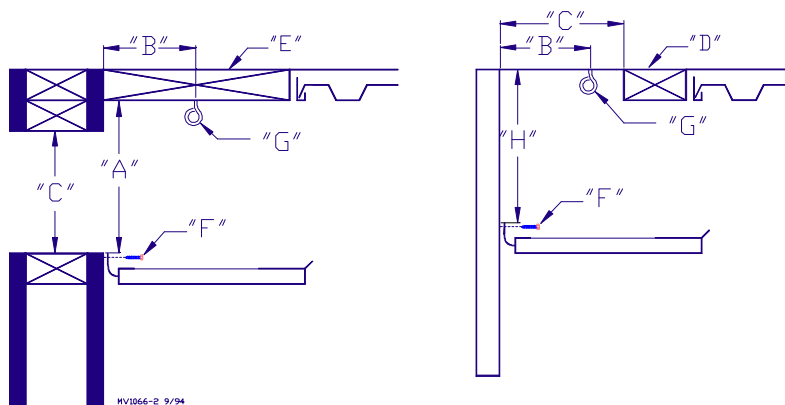

Figure 1.
1. Determine if the inlet slot is to be in the ceiling (for attic air) or on the side wall (for outside air). Figure 1 provides information for attic inlet installations and side wall inlet installations.
### Legend: Figure 1
The screw hooks should be as close as possible (without interfering) to the lip of the baffle sections when they are closed. See Figure 1 & 2.